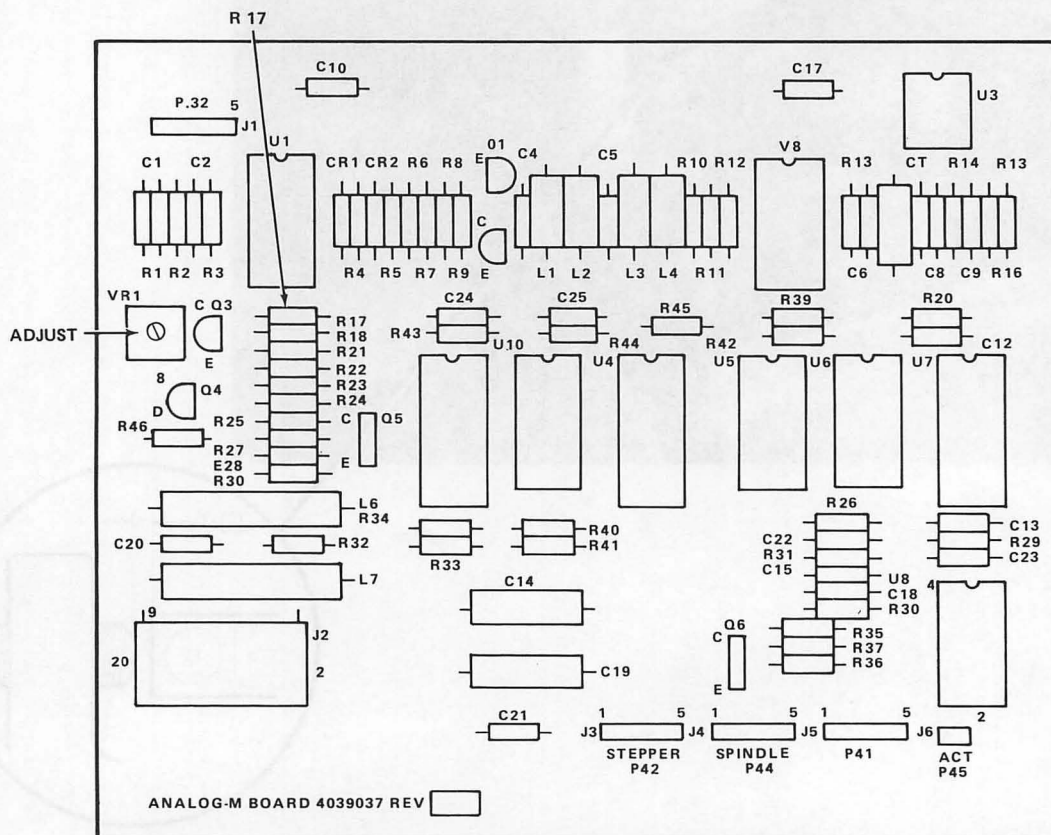

Figure 6-6. Analog-M-Board
7. Use the voltmeter to take a voltage reading across R17. Figure 6-6.
8. If needed adjust the blue pot (Figure 6-6) on top of the analog card until the voltmeter reads .350 volts, plus or minus .010 volts.